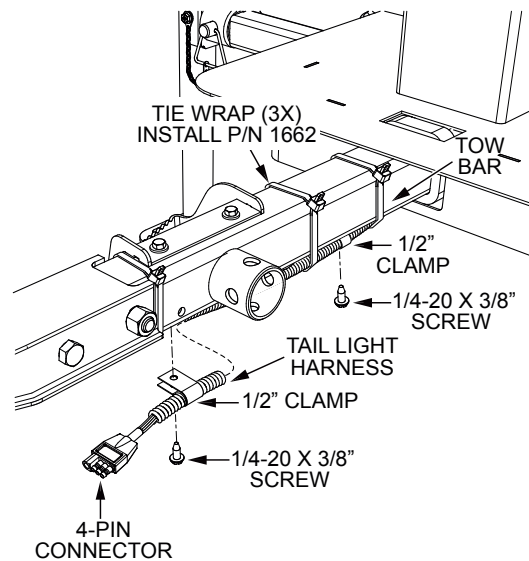

Figure 12. Attaching Tail Light Harness
1. Route the tail light harness through both of the 1/2" clamps as shown in Figure 12.